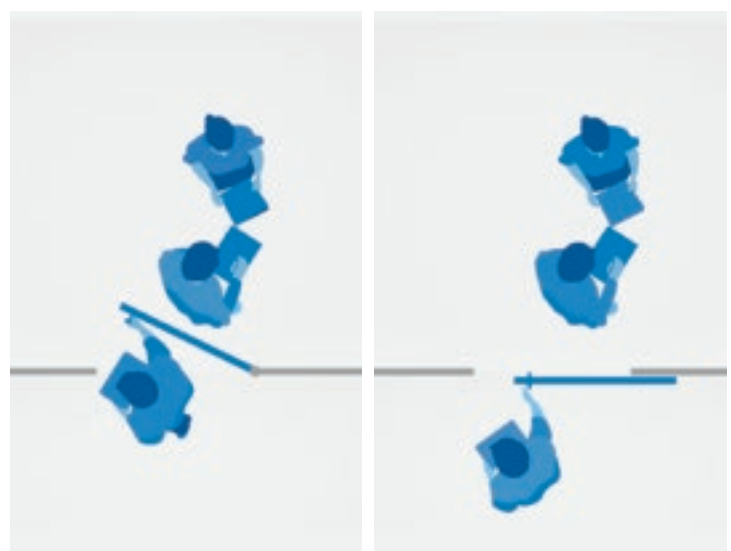

Figure 4. Sliding door reduces the risk of collision
- Particular door types can reduce the risk of collision with moving objects and people (see Figure 4).